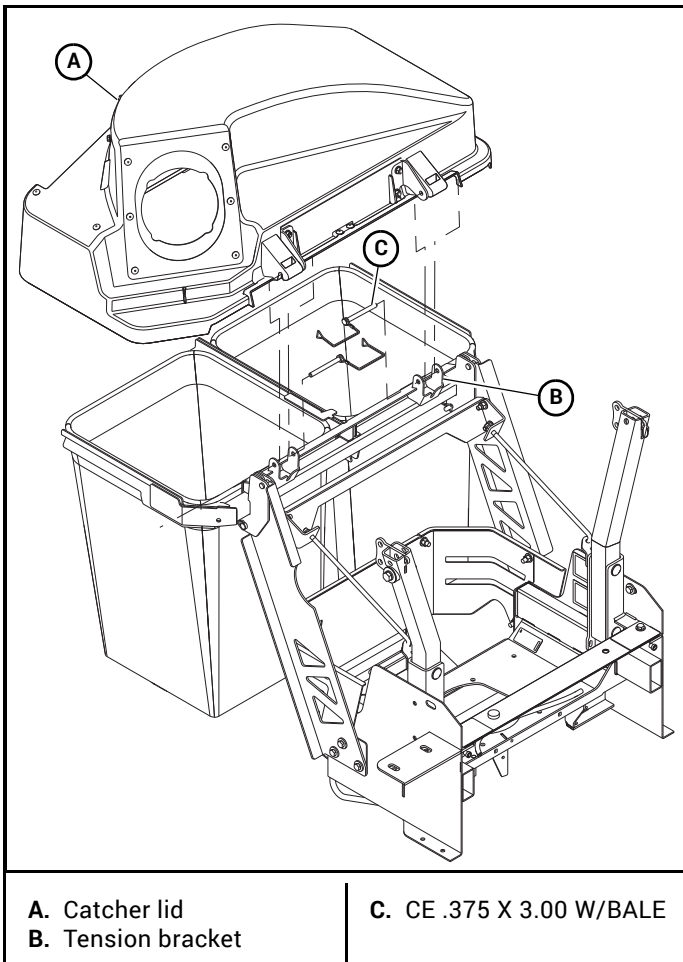

Figure 3-5
10. Attach the catcher lid to the catcher frame with the hardware shown. **NOTE:** It is easier for two people to attach the catcher lid to the catcher frame than it is for one person. Figure 3-5